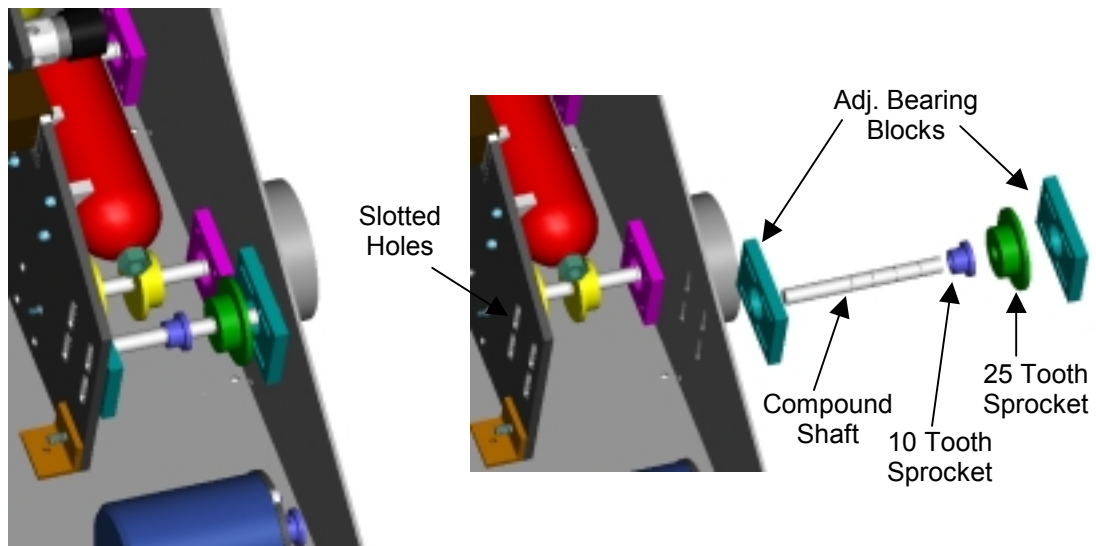

Figure 6.4 – Compound Shaft and Adjustable Bearing Blocks
The compound shaft is part of the chain system whose sole purpose is to gear down the speed of the motor. The compound shaft consists of a shaft with a 25 tooth and 10 tooth sprocket attached to the shaft with a key, set screws and E-rings. The shaft rotates in two sealed roller bearings that are pressed into the adjustable bearing blocks as seen in Figure 6.4.
2. Place the sprockets on the shaft as seen in Figure 6.4. It may be necessary to use a hammer or press.